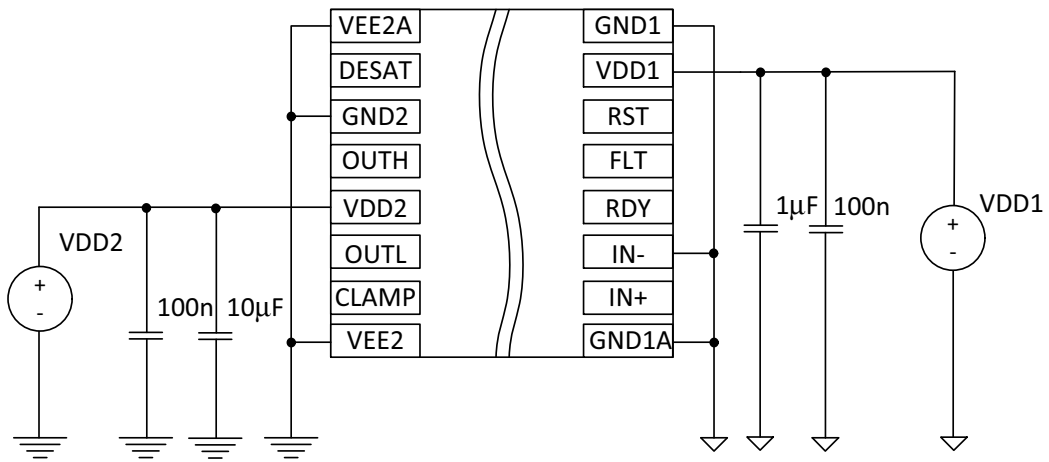

Figure 12. Unipolar Power Supply
- In Unipolar power supply the driver is typically supplied with a positive voltage of 15 V at VDD2. Dynamic turn on throughout the internal IGBT input capacitance could be prevented by Active Miller Clamp function. CLAMP output should be directly connected to IGBT gate (Figure 12).